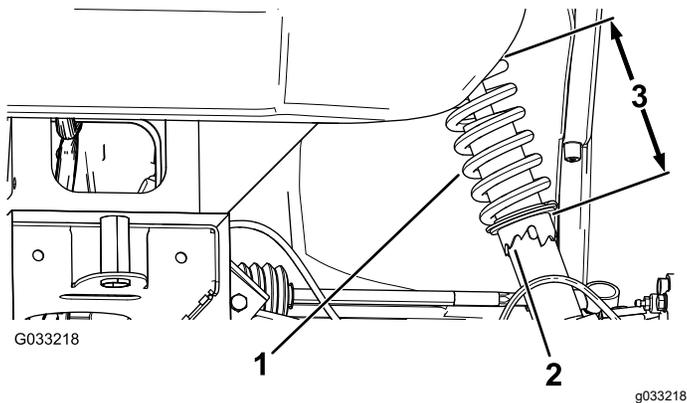

Figure 58
1. Using the tool (Toro Part No. 132-5069), rotate the collar on the shock absorber to change the length of the spring (Figure 58).